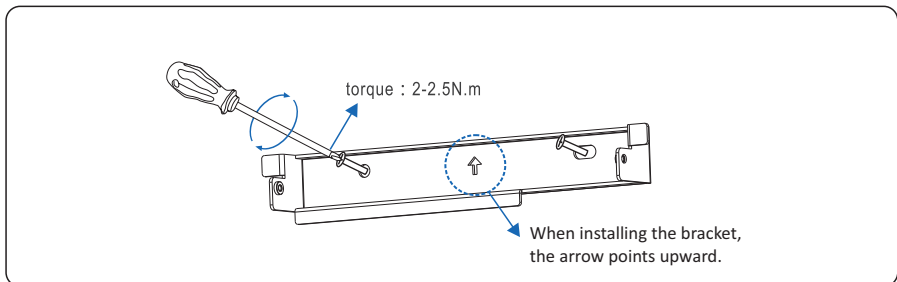

Figure 4.13 Installing the rear panel
Step 5 Align the rear panel with the holes, insert expansion bolts into the holes through the rear panel, and tighten the expansion bolts to a torque wrench (torque 2-2.5 N·m), as shown in Figure 4.13.